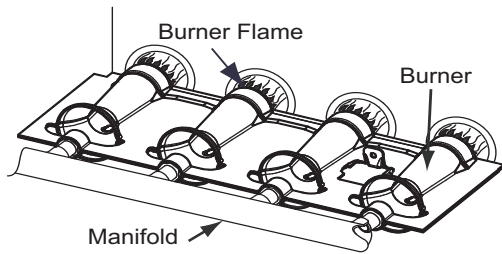

Fig. 11 – Burner Flame
2. Connect the orange wire from the Low Heat Pressure Switch to the orange wire with the insulated male spade terminal. See Fig. 11.
NOTE: Gas valve regulator seal cap MUST be in place when checking input rate. When correct input is obtained, main burner flame should be clear blue, almost transparent, see Fig. 11. Be sure regulator seal cap is in place when finished.